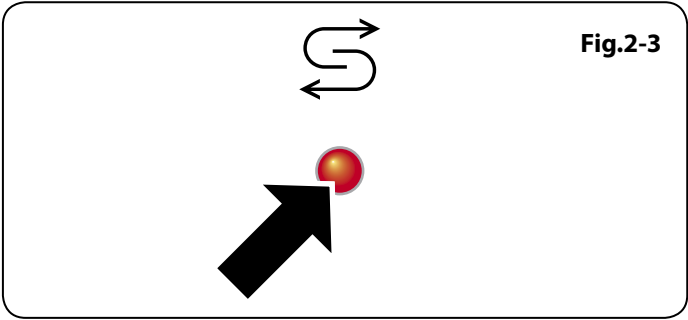

Fig.2-3
- 1. When the low salt indicator (**Fig.2-3**) lights, you must fill the salt. Remove the lower rack and then unscrew and remove the cap from the salt container.